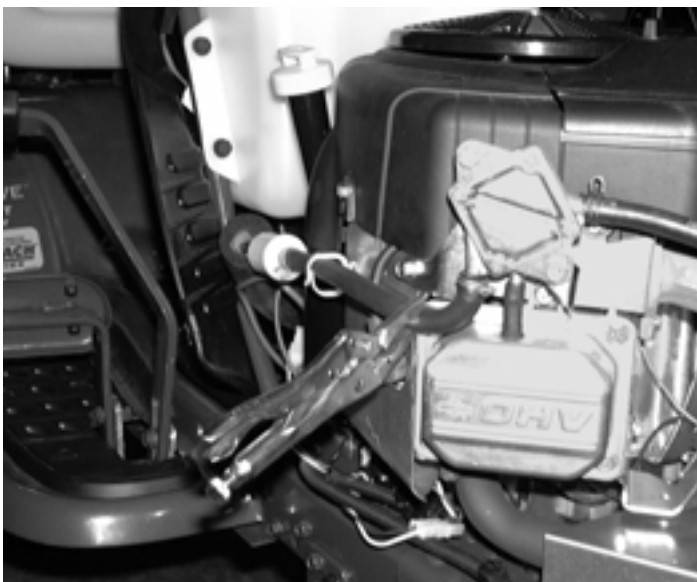

Figure 4
11. If fuel is present in gas tank, clamp fuel hose near the fuel pump or carburetor. Note routing of fuel hose for reassembly. Disconnect hose from fitting on pump or carburetor. Remove bolts attaching tank to dash support tube. Remove tank and fuel line. See Figure 4.